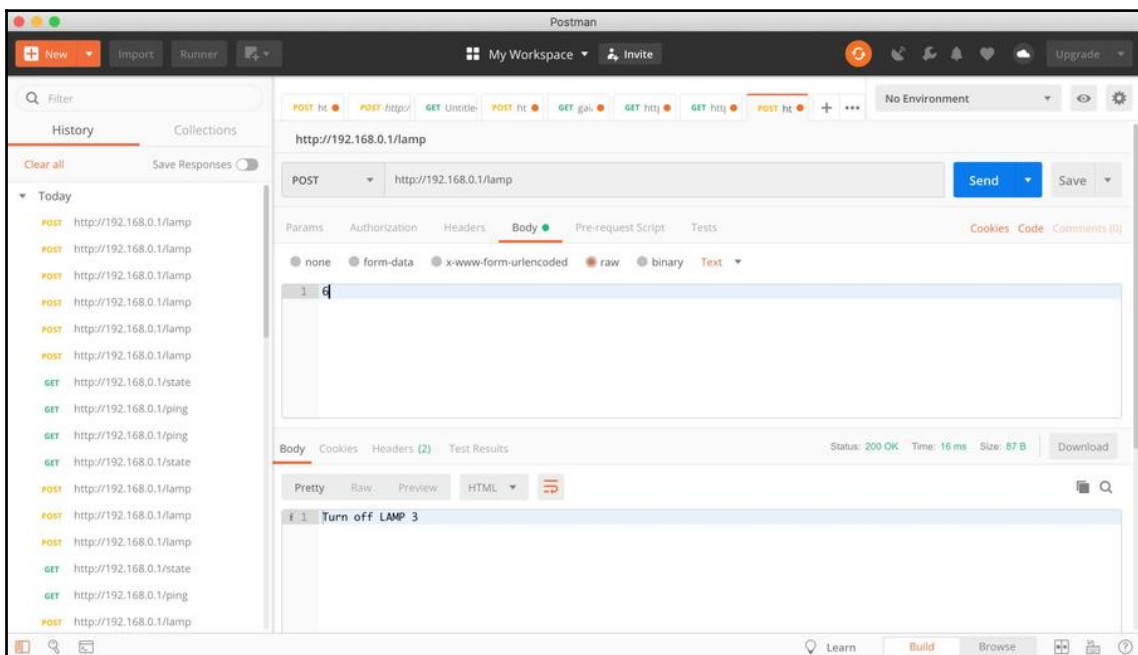

Figure 9.7: Testing the ESP32 web server with Postman
3. If you have set these fields, you can click on the **Send** button to send data to the ESP32 board. You will then get a response from the ESP32 board. *Figure 9.7* shows a program output from Postman after sending the `/lamp` request with a value inputted as `6`: